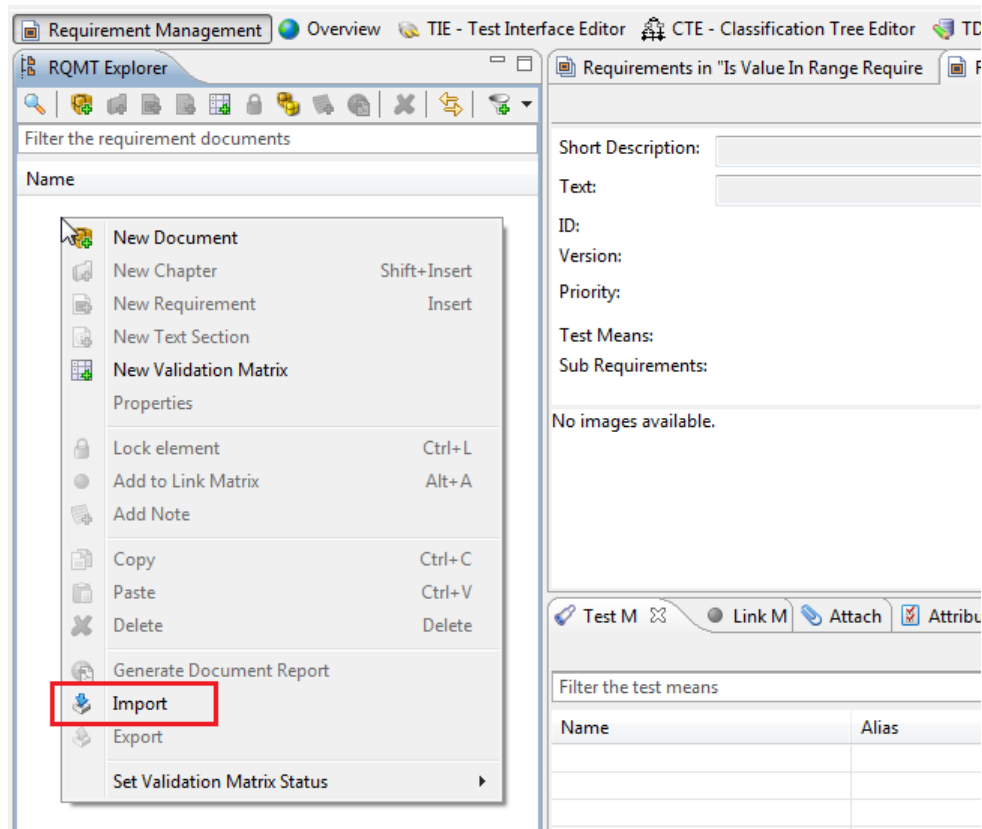

Figure 6.97: Importing requirements
- Right-click a document or right-click within the blank RQMT Explorer view and select “Import” from the context menu (see figure 6.97). When no document is selected, the import will create a new document.